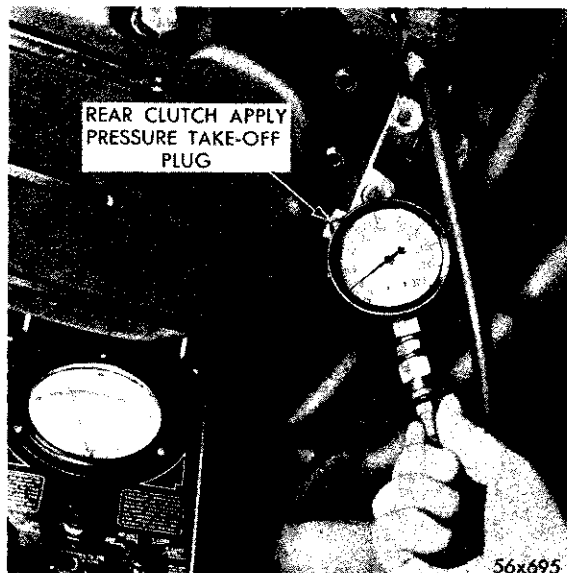

Fig. 43—Checking Rear Clutch Apply Pressure
c. Rear Clutch Apply (Fig. 43)
Remove pipe plug from the rear clutch, apply pressure take-off hole located on the output shaft support (Fig. 40). Install gauge Tool C-3293 (300 psi.), as shown in Figure 43. The rear clutch circuit is pressurized in D (drive) position, direct and in the R (reverse) position. The rear clutch circuit pressure should be checked simultaneously with line pressure. The rear clutch apply pressure should not be less than a value of 15 psi. lower than line pressure (90 psi. in direct and 200-250 psi. in reverse). If the rear clutch pressure is not correct investigate the "Trouble Diagnosis Chart".